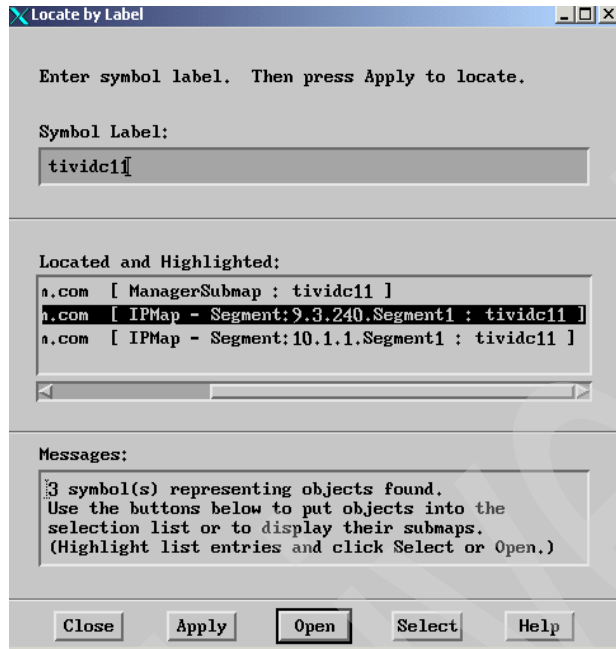

Figure 13-13 Locating tivdc11 node
3. Select the node and click **Open**, as shown in Figure 13-13 on page 638.
Figure 13-13 on page 638 shows that BATCHMAN, JOBMAN, and MAILMAN icons are yellow, which means that they are stopped. Remember that we have previously issued a **stop conman** command from the NetView console.